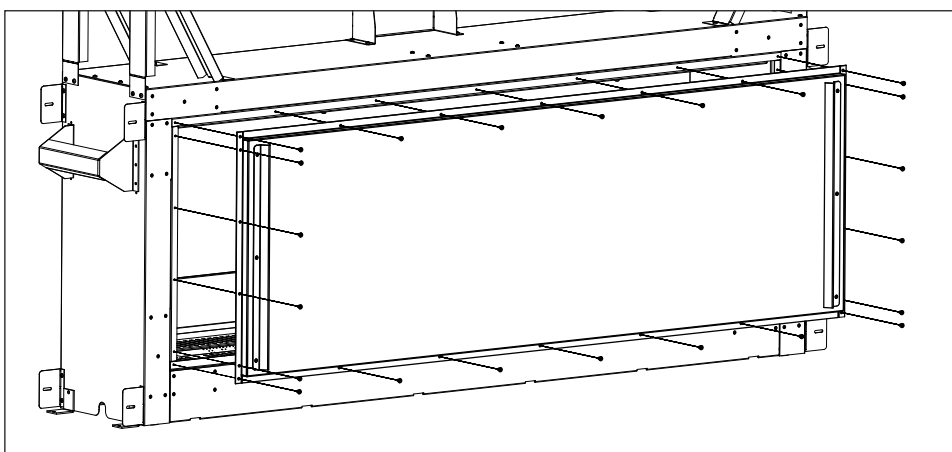

Figure 24: Rear Cabinet
3. Remove the rear cabinet by undoing the T20 screws holding on the back of the unit (Figure 24).